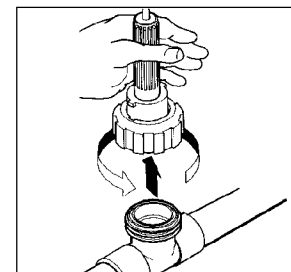

FIGURE 15
2. Close isolation valves and relieve pressure on the system by opening the sample valve. Remove sensor from flow assembly by unscrewing coupling ring. Pull sensor straight up with no side motion to prevent breakage (see fig. 15). Rinse and then inspect sensor. If deposits or fouling is present, clean sensor per instructions in Section 10, Maintenance, pg. 48.
1. Close isolation valves and relieve pressure on the system by opening the sample valve. Remove sensor from flow assembly by unscrewing coupling ring. Pull sensor straight up with no side motion to prevent breakage (see fig. 15) Inspect sensor, if deposits or fouling is present, clean sensor per instructions in Section 10, Maintenance, pg. 48.